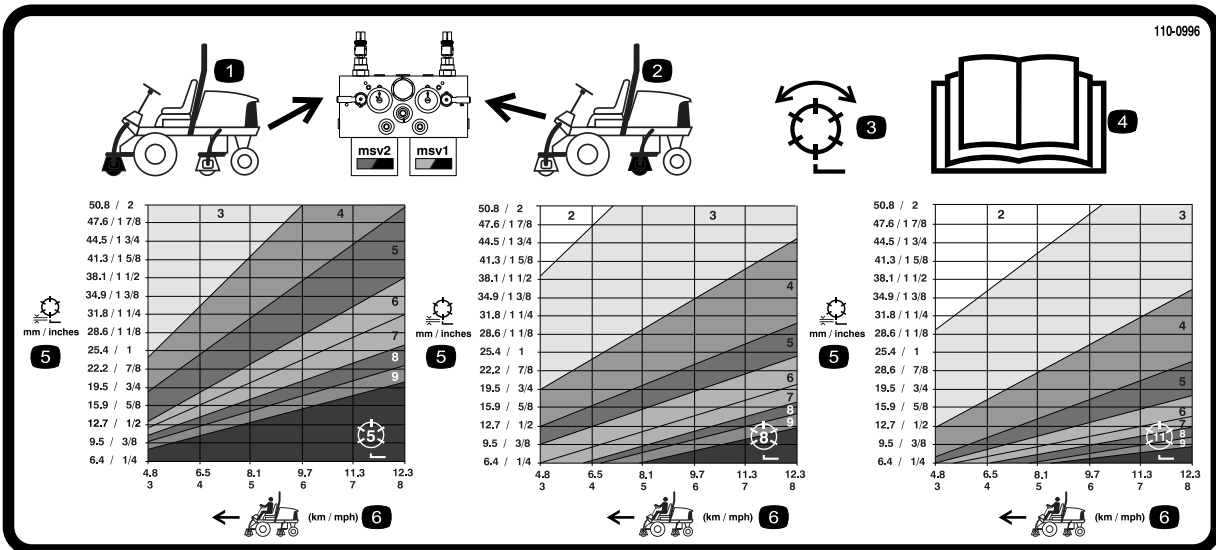
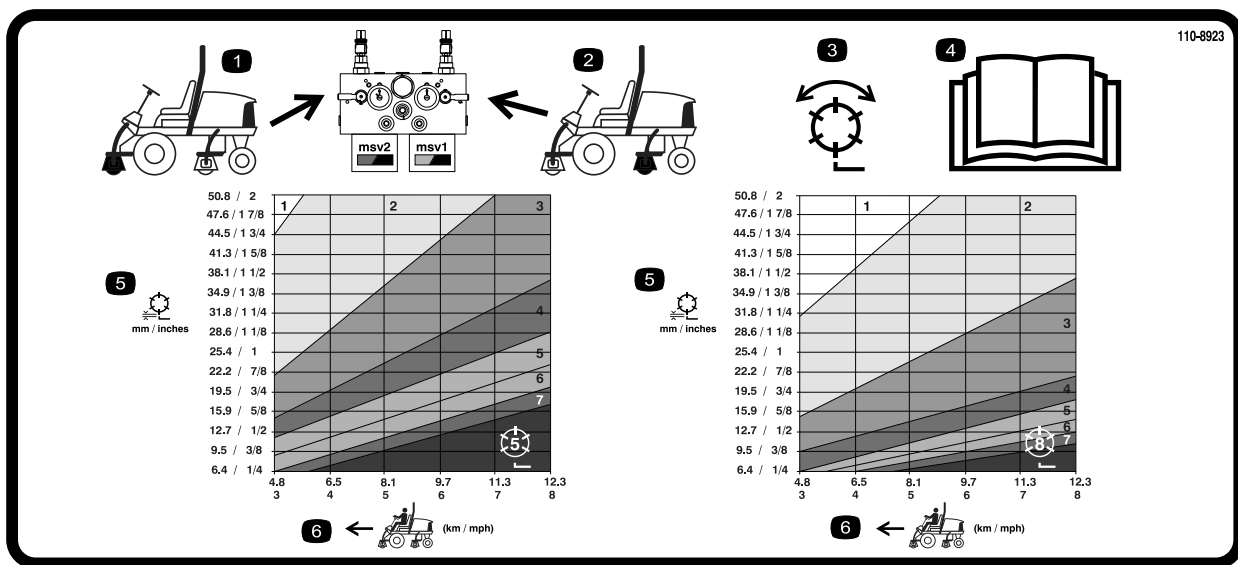

Figure 38
Figure 39
- Using the appropriate graph on decal 110-0996 (Figure 38) for Reelmaster 5510 & 5610, 7 inch reel cutting units or decal 110-8923 (Figure 39) for Reelmaster 5210 & 5410, 5 inch reel cutting units determine the proper reel speed setting.